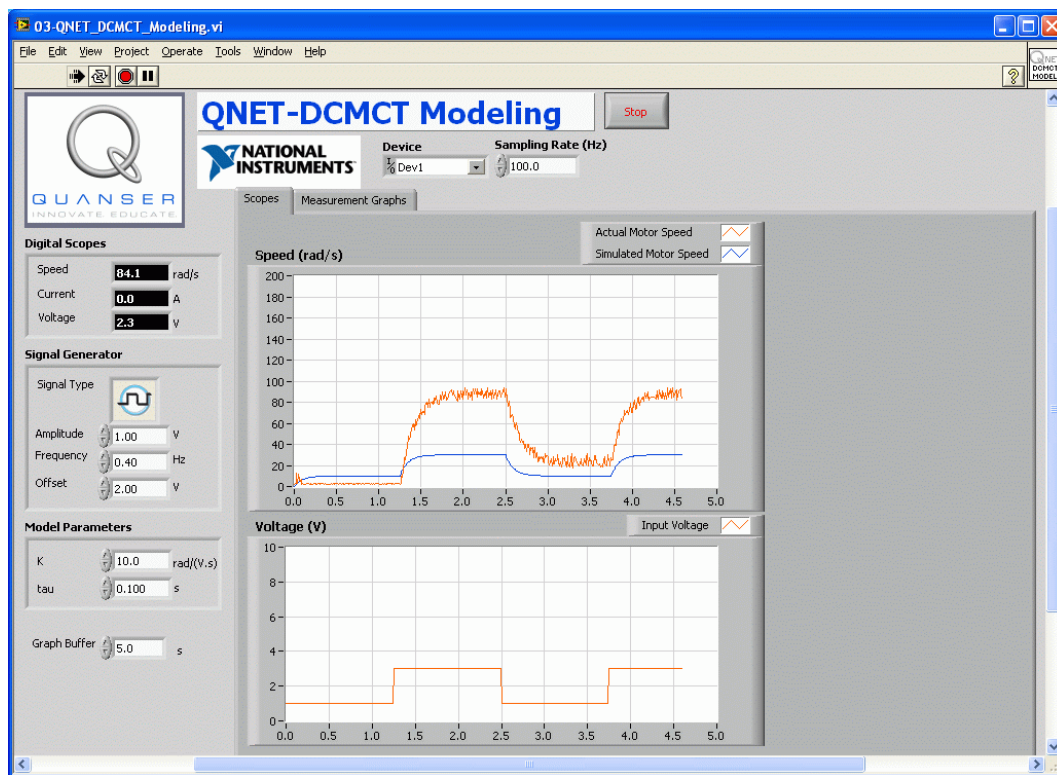
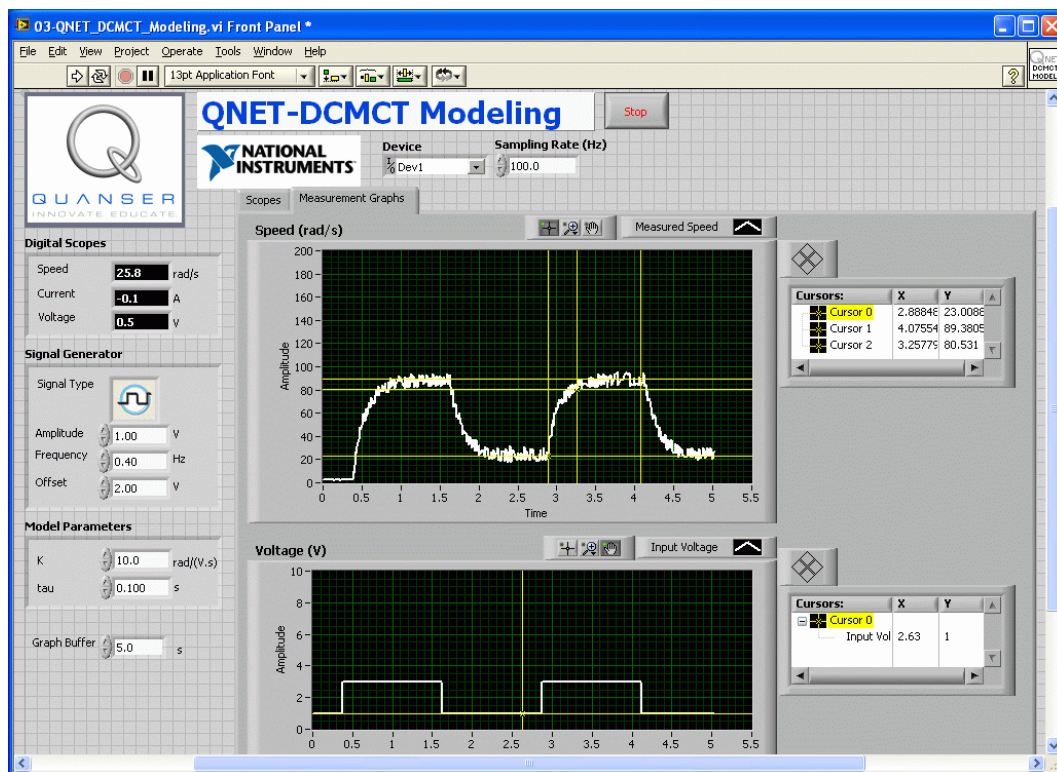

Figure 2.2: LabVIEW VI for modeling QNET DC motor
Figure 2.3: QNET DCMCT Modeling VI: sample response in Measurement Graphs
Applying a voltage to the DC motor and examining its angular rate is investigated in the laboratory. The model simulation is ran in parallel with the actual system to allow for model tuning and validation. The LabVIEW virtual instrument for modeling is shown in Figure 2.2. Figure 2.3 shows the graphs-view of the VI, which is used to take measurements.
2. Run the QNET\_DCMCT\_Modeling.vi. The DC motor should begin spinning and the scopes on the VI should appear similarly as shown in Figure 2.2.
5. Attach the responses in the *Speed (rad/s)* and *Voltage (V)* graphs. See the QNET VI LabVIEW Hints section in the QNET User Manual for information on how to export a chart or graph to the clipboard.
7. Use the responses in the *Speed (rad/s)* and *Voltage (V)* graphs to compute the steady-state gain of the DC motor. See Section 2.1.1 for details on how to find the steady-state gain from a step response. Finally, you can use the *Graph Palette* for zooming functions and the *Cursor Palette* to measure data. See the LabVIEW help for more information on these tools.